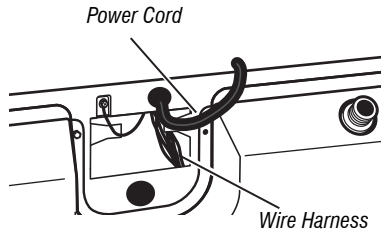
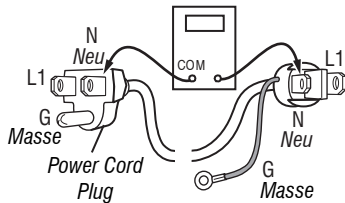

Figure 4 - Power cord-to-wire harness connection for gas dryer.
Figure 5 - Power cord terminals, gas dryer.
3. Check that the power cord is firmly connected to the dryer's wire harness. See figure 4.
- If there is no continuity, disconnect the white wire of the main harness from the power cord at the location illustrated in figure 4. Test the continuity of the power cord neutral wire as illustrated in figure 5. If an open circuit is found, replace the power cord. Otherwise, go to step 6.